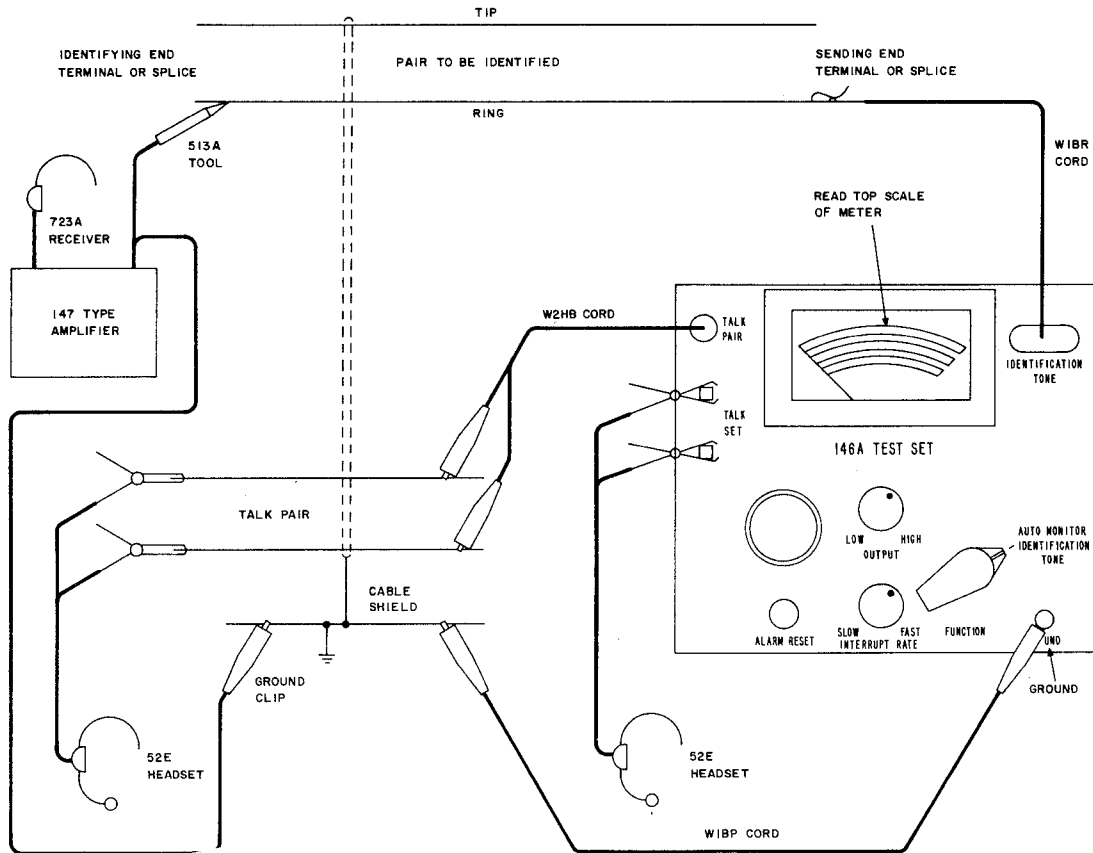

Fig. 8—Wire Identification in Subscriber Circuits
- 5.01** Refer to Fig. 8. Establish a talking circuit as described in Part 4.